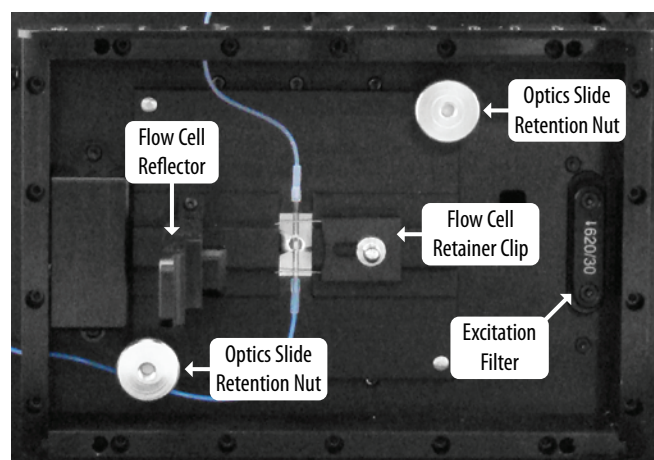

Figure 1. Arrows indicate the flow cell retainer clip, optics slide retention nuts, flow cell reflector pin, and excitation filter.
1. After removing the optics cover, the excitation filter can be removed by grasping the exposed handle (Figure 1). **AVOID TOUCHING LENSES ON THE FILTERS AND DICHOIC MIRROR AS THIS MAY CAUSE DAMAGE.** Upon removal, place each filter set component in its appropriate storage box. Identifying wavelengths are printed on each filter/mirror handle and storage box.
2. Open the flow cell reflector and gently move the flow cell over the reflector to the left. There is no need to disconnect the plumbing. Remove the optics slide retention nuts and gently pull to remove the optics slide from the instrument (see Figure 1 to identify parts).